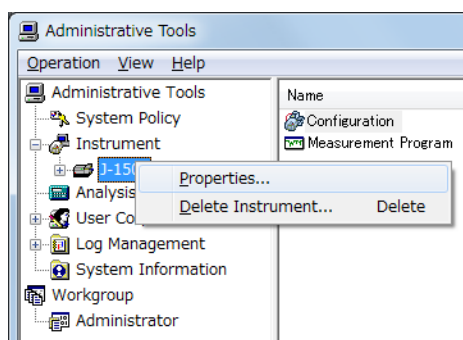

Figure 3.6 J-1000 instrument shortcut menu
- (1) Confirm that the CD spectrometer is turned on and that [Spectra Manager] is running.
- (2) After starting [Administrative Tools], right-click the instrument name and select [Properties...] (see Figure 3.6).